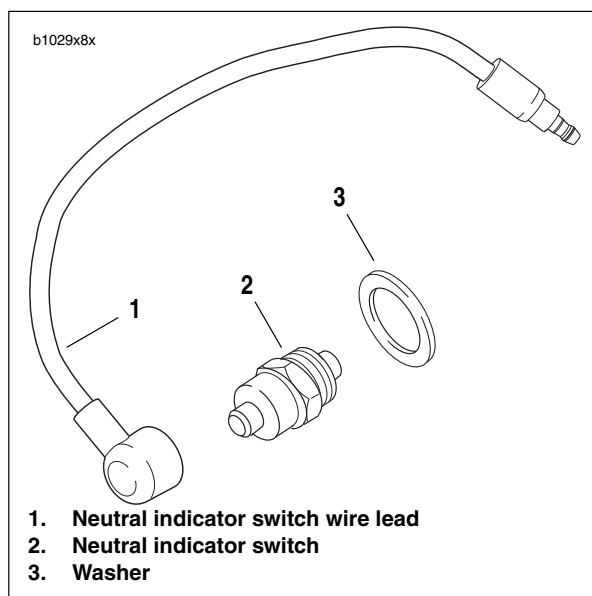

Figure 7-73. Neutral Indicator Switch
3. See Figure 7-73. Remove wire lead (1) from neutral indicator switch (2).
4. Remove neutral indicator switch and washer (3).
- a. Apply a light coating of LOCTITE THREADLOCKER 243 (blue) to **new** neutral indicator switch (1) threads.
- b. Install washer (3) over neutral indicator switch (2) threads.
- d. Connect wire lead (1) to switch.